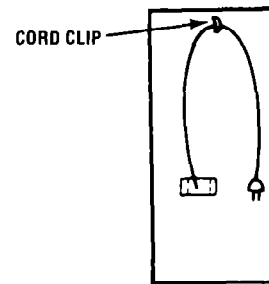

FIGURE 6
5. Be sure the cord clip on the cord is attached to the clip to the rear of the cabinet as shown in Figure 6.